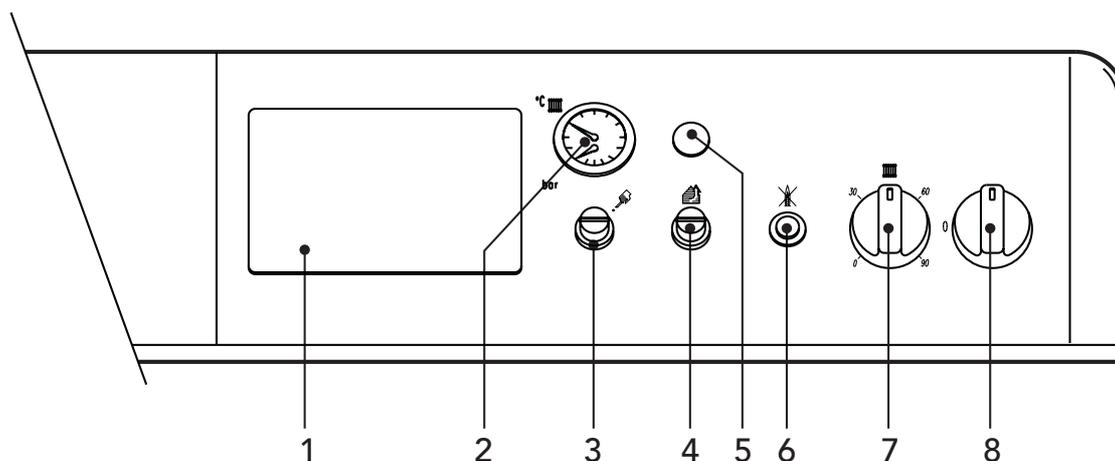

fig. 1
- Turn the boiler switch "8" onto 1 (Fig. 1).
- If the boiler is equipped with an electronic thermostatic controller mounted at position 1 of Fig. 1, the user must also take into account the manufacturer's instructions.
Turn knob "7" (Fig. 1) clockwise to increase the heating water temperature, turn anticlockwise to decrease it. The temperature can be varied from a minimum of 30°C to a maximum of 90°C. However, it is advisable not to operate the boiler below 45°C.
Using the room thermostat, set the temperature desired in the rooms. Controlled by the room thermostat, the boiler lights and delivers water to the system at the temperature set by boiler adjustment thermostat "7" (Fig. 1). The generator turns off when the desired temperature in the rooms is reached.
The filling pressure with system cold, read on boiler hydrometer (detail 2 in Fig. 1), must be about 1.0 bar. If, during operation, the system pressure falls (caused by the evaporation of gas dissolved in the water) to values below the minimum described above, the user must bring it back to the initial value by operating the filling cock. At the end of the operation always close the filling cock.